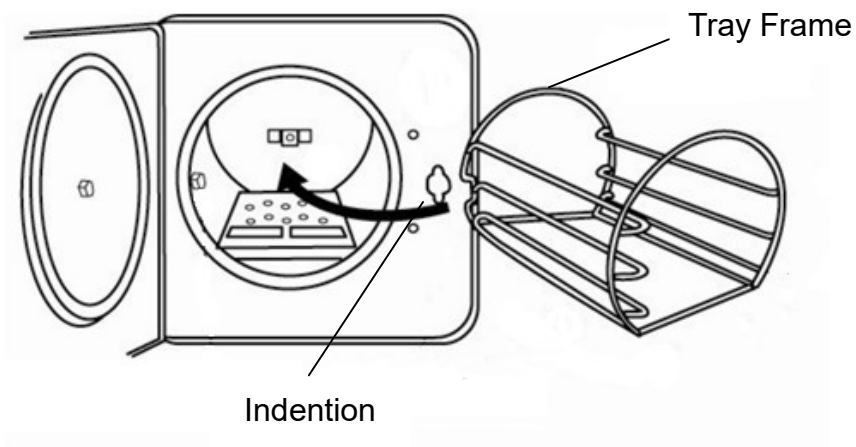

Figure 32
F. Install the tray frame as shown in Figure 32 (standard accessory)
**CAUTION:** The frame should be installed as in Figure 32 below. The indentation of the frame will pass the bushing in the chamber.